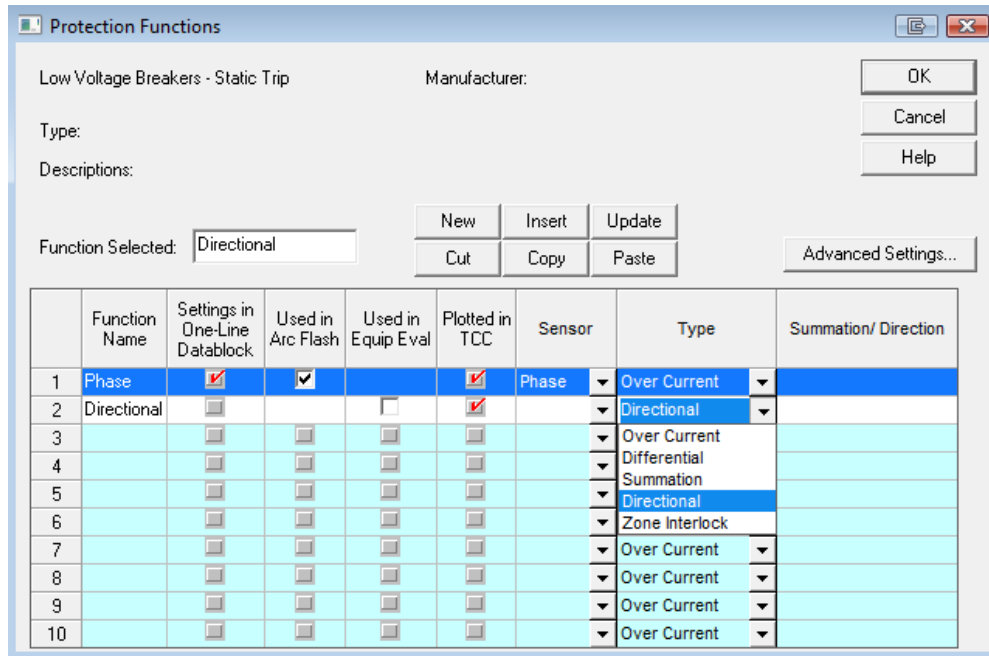

Figure 5
2. Click the New button and type in Directional under the Function Name column. Select Directional from the Type pull-down menu (Figure 5).